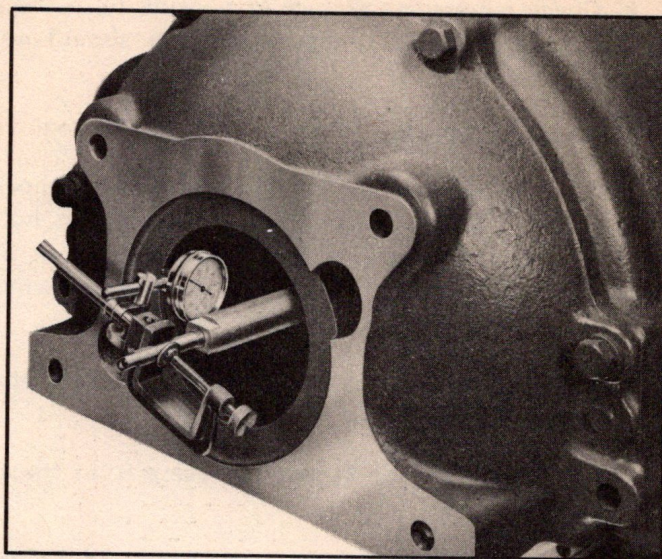

Fig. 223—Dial Indicator in Place to Check Hole
5. Mount dial indicator on crankshaft flange so spindle on indicator contacts inside of four-inch hole in rear housing (Fig. 223).